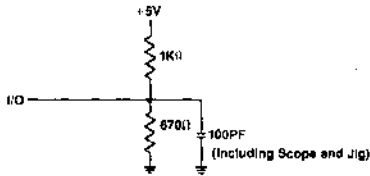

Figure 1 - Output Load
3. Transition is measured $\pm 200\text{mV}$ from steady state voltage with specified load of Figure 1.